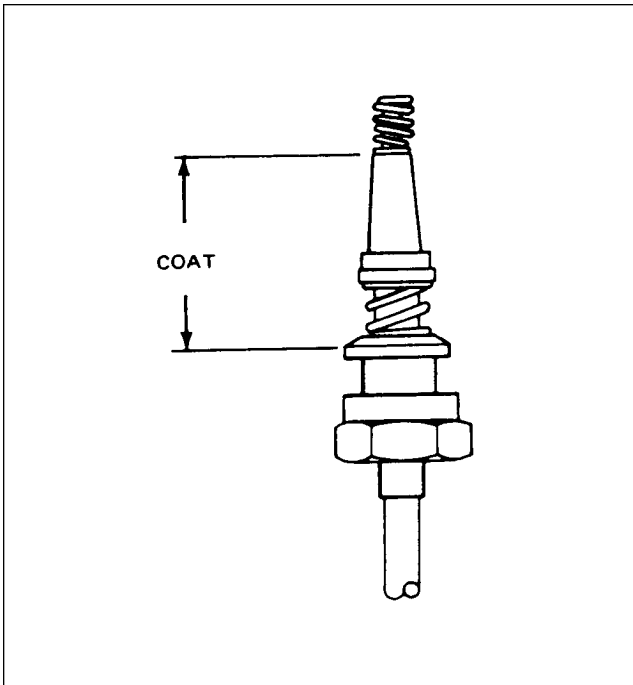
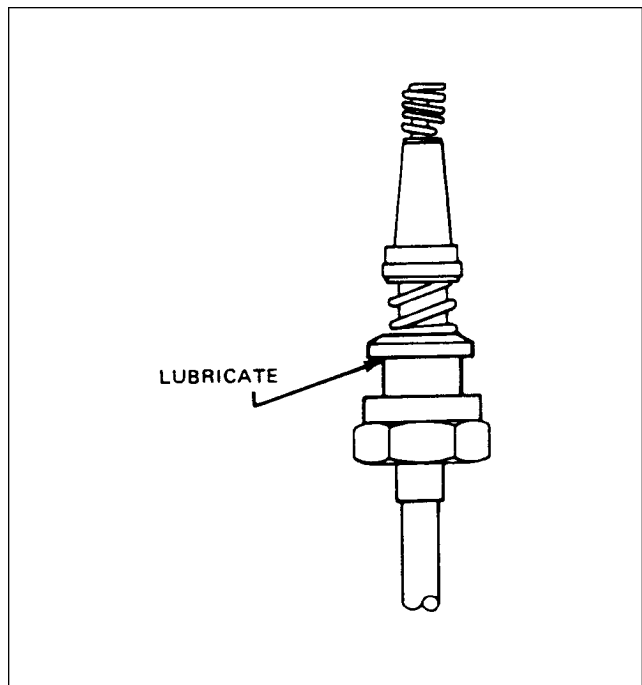

Figure 74-30. Lubricating Sleeve
Figure 74-31. Lubricating Ferrule Shoulder
9. Prior to seating spark plug lead terminal in plug barrel use fluorocarbon spray on spark plug terminal insulating sleeve (refer to figure 74-30) to prevent heat from sticking sleeve to spark plug barrel. Lightly lubricate the shoulder of ferrule to minimize twisting of ferrule. (Refer to figure 74-31.) Use Go-Jo No Lok manufactured by Go-Jo Inc., Akron, OH 44309.